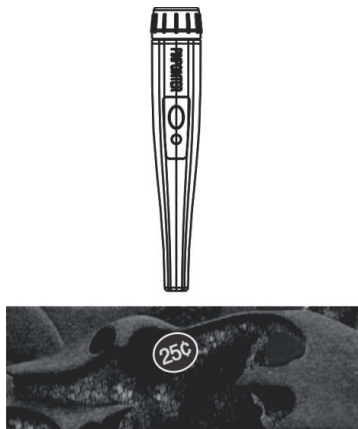

Fig. 5
2.If the target is buried shallow you can try the following method: Please turn on the power supply in the air and balance on the area where the target may be buried. Please keep the pinpointer be vertical all the time and let it move downward on the ground slowly (see Figure.5). In the point of the burying target the unit will send the alarm signal. If the pinpointer sends the alarm signal everywhere when it closes to the ground it means the soil mineralization is seriously. You should balance once again, and then proceed to determine the position. In the process of positioning if you feel the alarm area is too large you can try to balance once again in the position where the LED glows white light or moving the pinpointer in the smaller range to improve the positioning accuracy, then begin to dig.